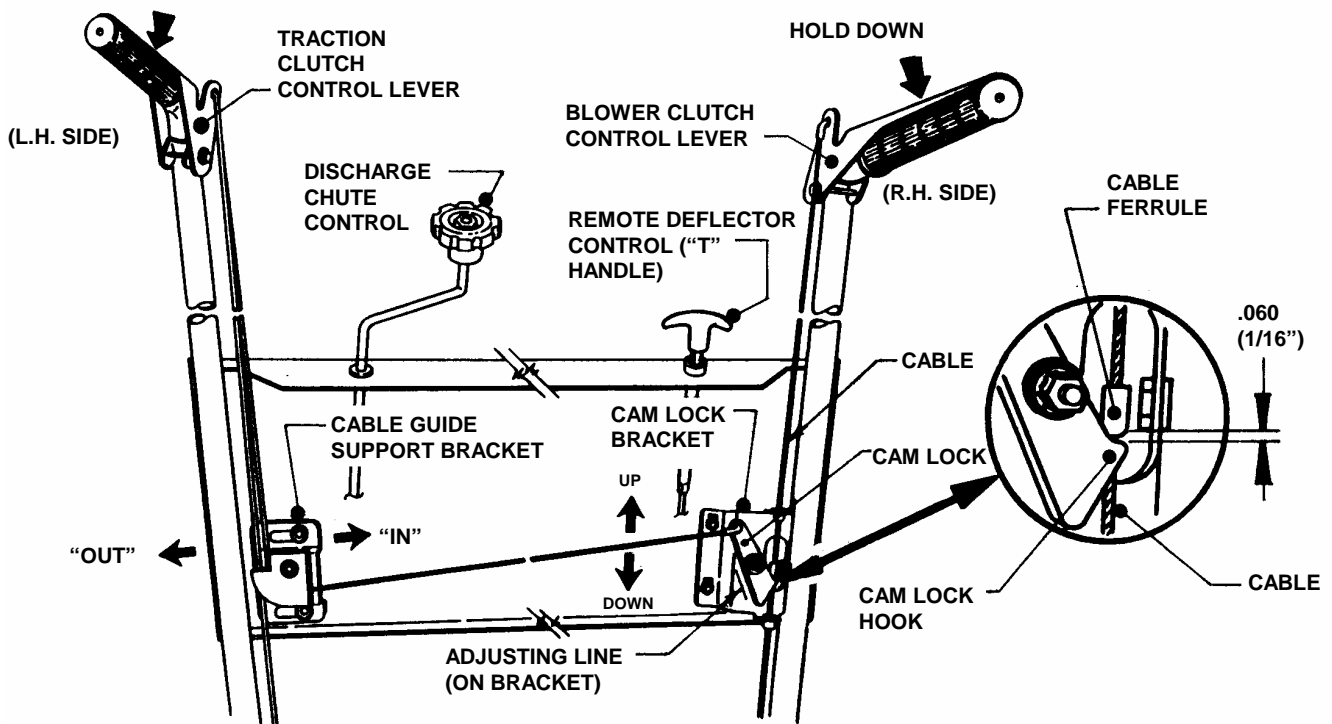

FIGURE 4.9
1. Hold the wheel drive control lever down against the handle. See Figure 4.9.
5. Check the position of the cable ferrule in relation to the cam lock. The ferrule must be located $1/16"$ (.060) above the hook of the cam lock. To adjust, loosen the three nuts that secure the cam lock bracket. Slide bracket up or down until correct measurement is achieved. Retighten nuts securely. See Figure 4.9.